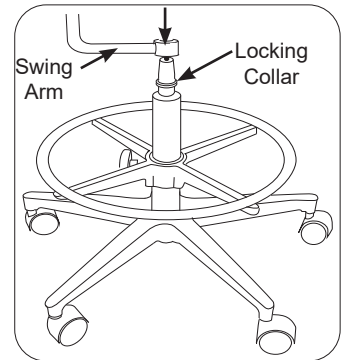

Figure 4
6. If swing arm is included, lower it onto the spindle of the cylinder, and press down firmly until it contacts the locking ring on the spindle (Figure 4)